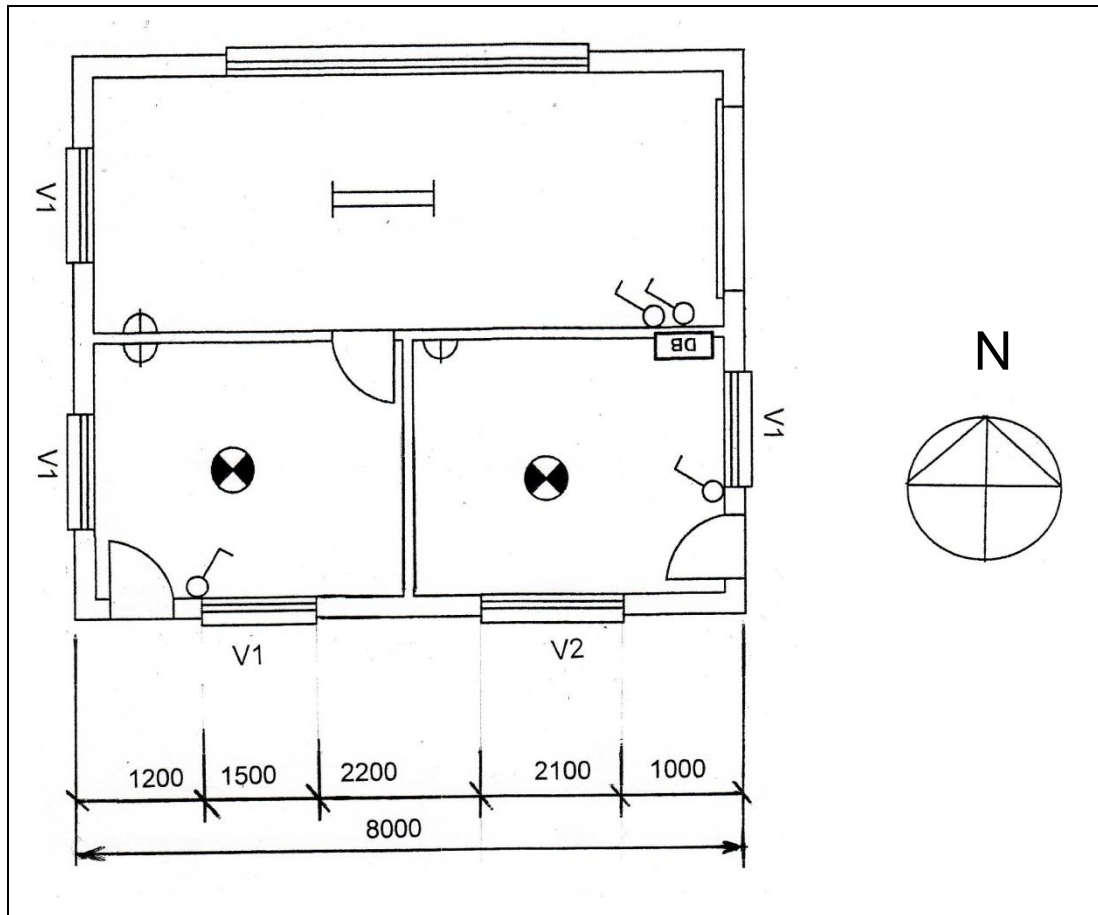

FIGURE 6.1
6.1 FIGURE 6.1 shows the floor plan of a building. Draw to scale 1:50 on ANSWER SHEET 6.1 the south view of the building. The building has a hip roof with a pitch of 30°. (20)